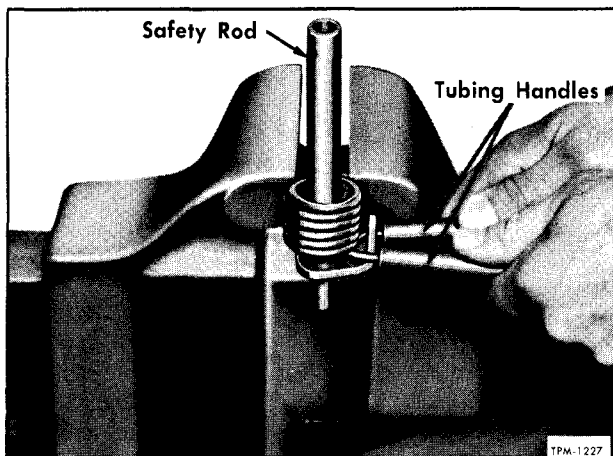
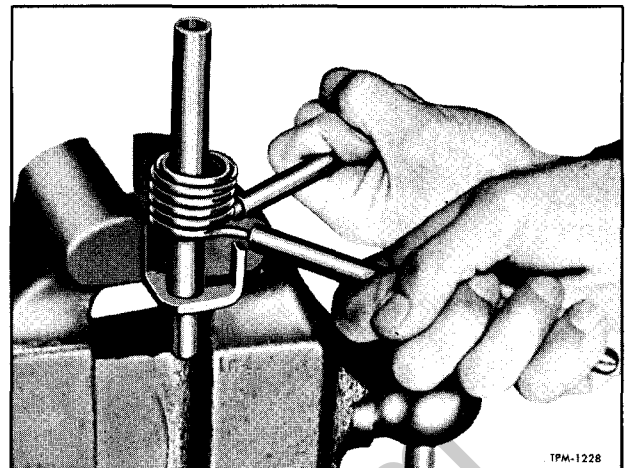

Figure 30—Removing Torsion Spring (Rockwell)
Figure 31—Removing Torsion Spring (Rockwell)
7. Do not disassemble torsion spring (23), and spring winding lever (22) unless necessary to replace one of the parts. If necessary to disassemble, mount assembly in vise as shown in figure 30. Place a short piece of rod in hub of spring winding lever as a safety factor to prevent injury should torsion spring slip out of control. Next, place two lengths of tubing over ends of spring, pull spring ends apart, then raise spring above spring winding lever (fig. 31). To assemble; reverse above procedure.